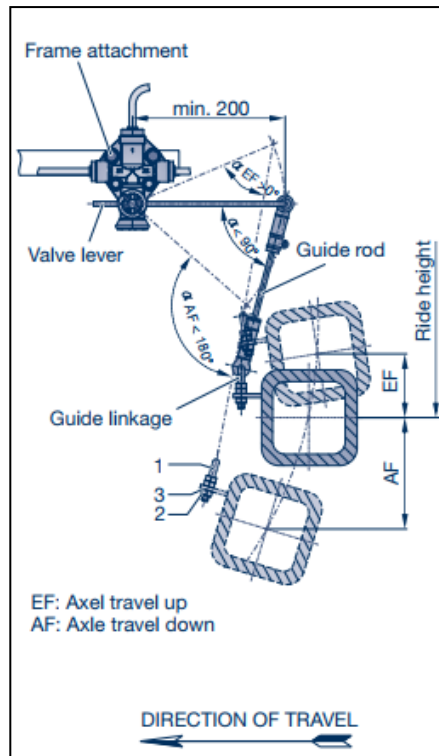

Figure 3
7. Ride height adjustment is done via the pivot linkage. Ensure that the angles and lengths are maintained as shown in Figure 3. i.e. length between the valve connection and guide connection must be a minimum of 200mm and the angle between the valve lever and guide rod must be less than 90° :
11. If more ride height adjustment is needed, the length of the guide rod (see Figure 3) must be adjusted.